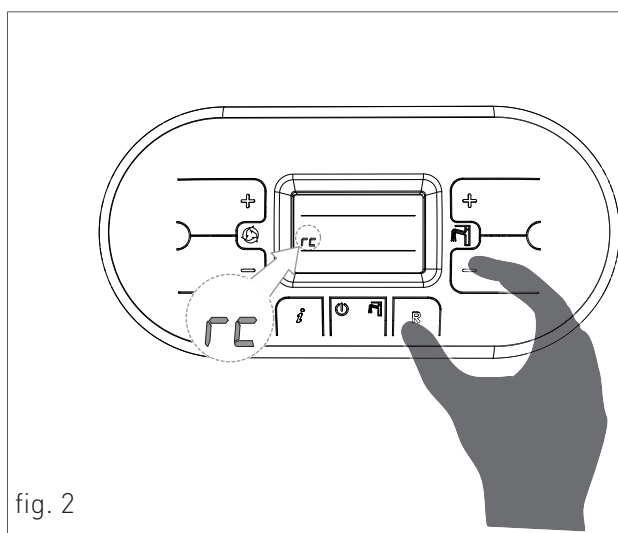

fig. 2
For machine positioning, proceed as follows (see fig. 2):
- › activate the recirculation mode by pressing simultaneously the **R** and **-** buttons of the control panel (fig. 2). The activation of the recirculation mode is displayed onto the control panel by means of the ‘rc’ symbol.
- › Disconnect the two faston of the recirculation probe (see B-fig. 2), and connect them onto the optional probe meant for the storage (part number: 40-00324, see fig. 2). Insert this latter probe into the sensor-holder of the storage tank.